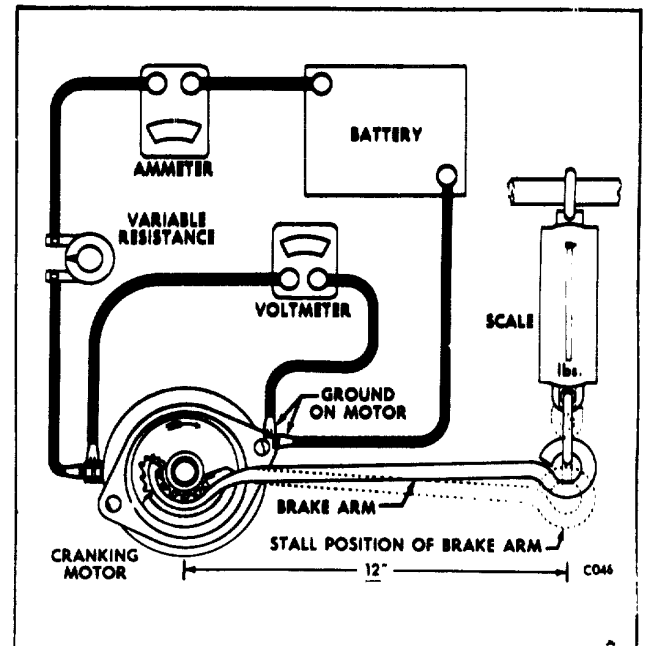

Figure 41.
2. Torque test: It is advisable to use in the circuit a high current-carrying variable resistance, so that the specified voltage at the motor can be obtained. A small variation of the voltage will produce a marked difference in the torque developed. (Fig. 41)